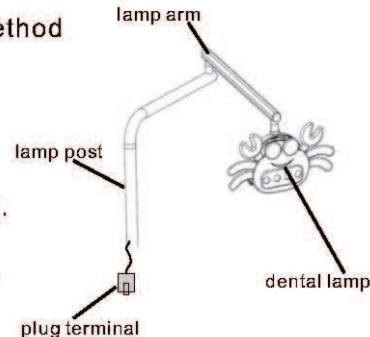

figure 5
- (1)First, insert the lamp arm and the column in the lamp. Then connect the lamp arm and the cabinet post to the socket, and insert the lamp arm and the middle column into the box. (See figure 5).Be careful not to damage the wire when installing.
- (2)Take out the cold light of the mouth, insert the connection hole of the headlamp arm first, and use the M5*12 inner hexagon screw with the lamp arm to align with the screw hole on the headlamp arm.